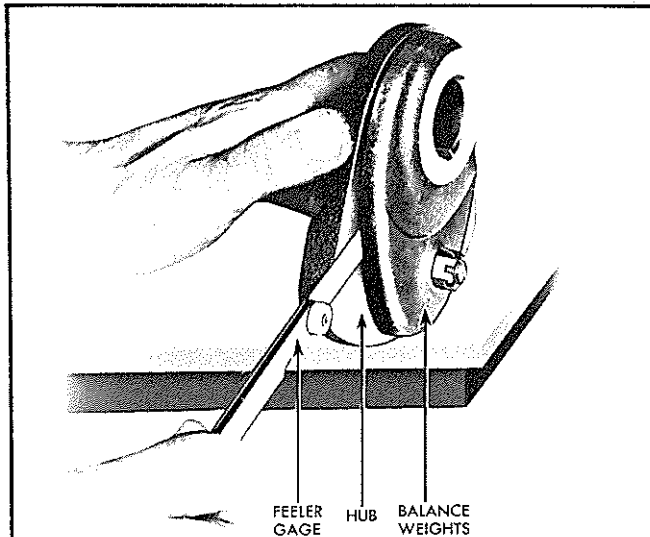

Fig. 39 — Measuring Clearance Between Balance Weight and Hub
1. Separate the springs into four (4) packs (17 or 18 per pack) so that each pack is .253" to .255" thick. The springs are of the following thicknesses: .0135" to .0145"; .015" to .016". The thickness of each pack should be determined while the springs are clamped tightly together. *IMPORTANT: Wash the springs clean, and dry with compressed air before making the above measurements.*
3. Arrange two (2) spring packs, one on each side of spring cavity, in the balance weight. Place the spacer on blade of a screwdriver, then enter the spring spacer, tapered end first, between the spring packs. As the spacer becomes fully enclosed, tilt the spacer into the upright position, bolt hole up. Press the spacer into place.
6. Check the clearance between the weight and the hub, as shown in Fig. 39. The clearance should be .010" to .016". Adjust the clearance by tightening or loosening the castellated nut, then lock the nut in position with the cotter pin.